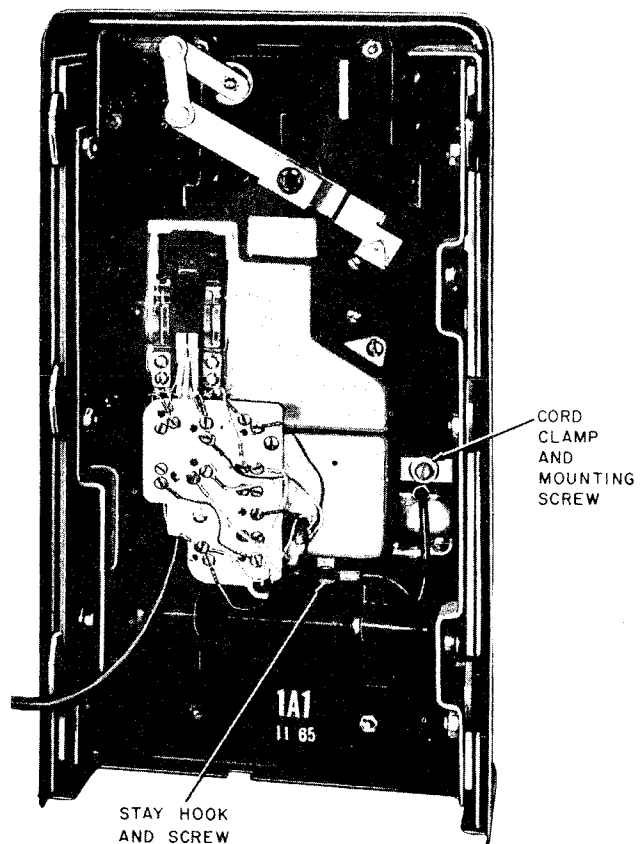

Fig. 30—Location of Armored Cord Mounting Hardware in 1A-Type Coin Telephones
- 3.39 Refer to Fig. 30 for routing and securing handset cord in 1A-type coin telephone.